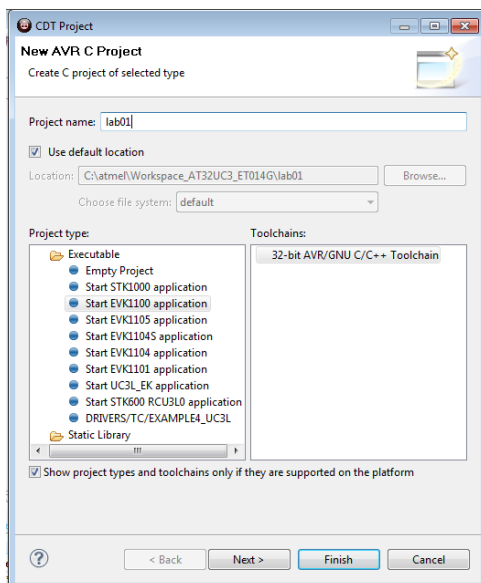
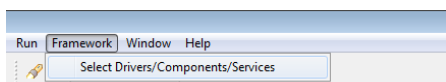
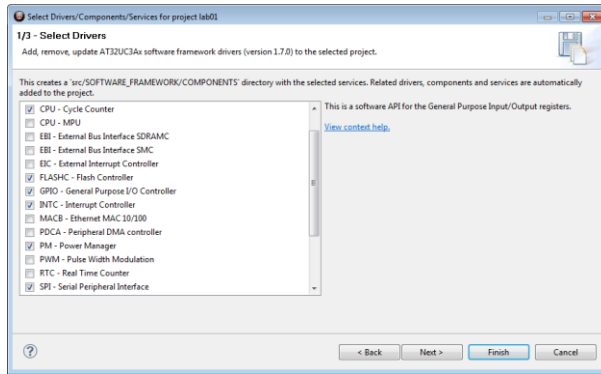

Figure 4. Project template
Figure 5. Framework
Figure 6. Selecting drivers/components/services
- Create new project by opening *File/New/Project/AVR32 Project from template* as shown in **Figure 5**Figure 4. Give authors information and click finish.
- Go to the menu bar and click Framework as shown in Figure 5 for selecting required drivers/components/service from the framework. The drivers' window is shown in Figure 6. Similarly select components and services and click finish.